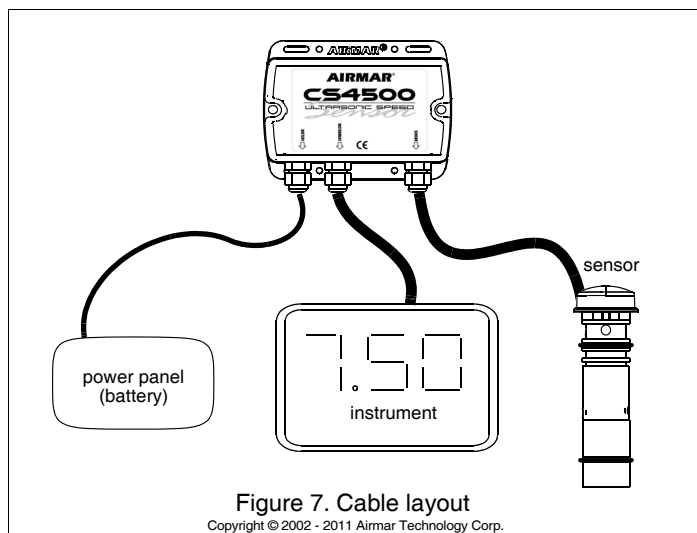

Figure 7. Cable layout
1. Select a convenient, *dry*, mounting location for the water-resistant junction box, about 1–2m (3' – 5') from the instrument (Figure 7).